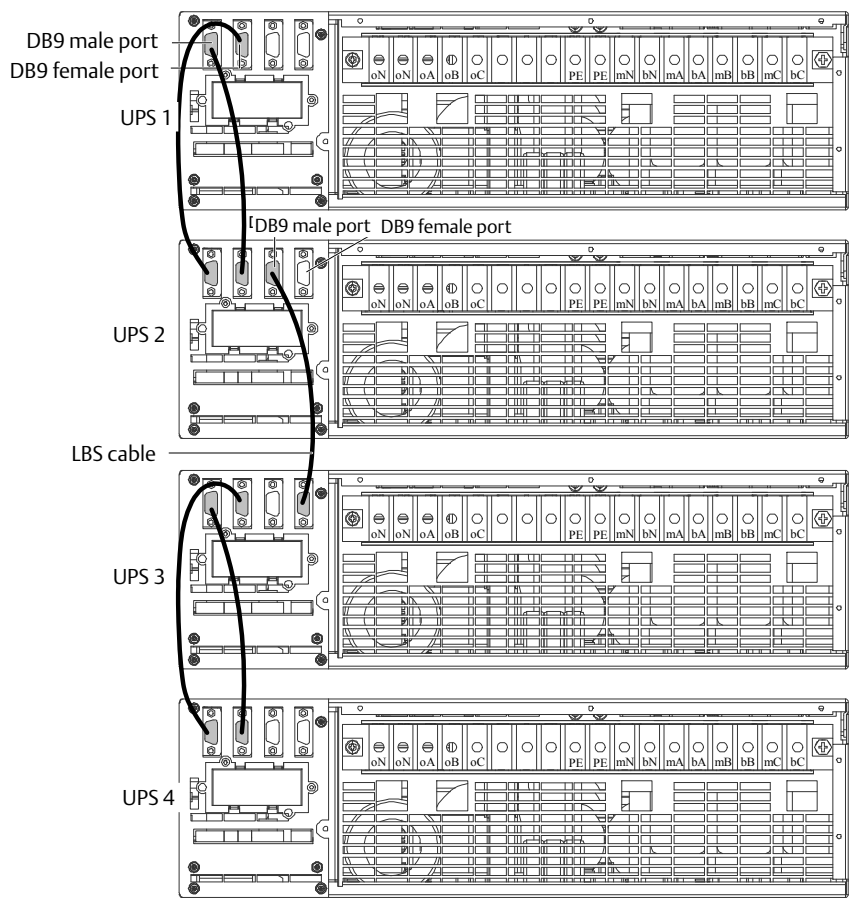

Figure 4-7 LBS cable connection
In double bus system, connect the two ends of the LBS cable to any LBS port of the two parallel systems respectively, as shown in Figure 4-7. The third port on the left is DB9 male port (needle shape), the fourth port on the left is DB9 female (hole shape).
3. As shown in Figure 4-7, one cable is LBS cable, others are parallel cables.